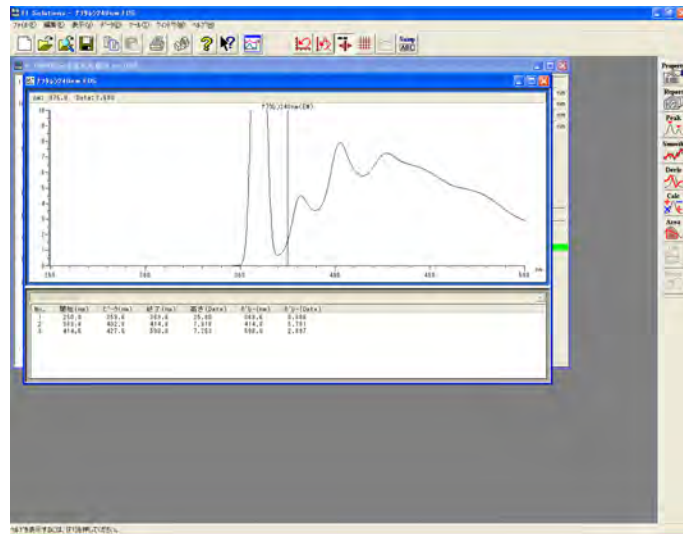

Fig. 7-2
- (6) After completion of selection, click **Open**. (Refer to ④ in Fig. 7-1.) The selected file will open as shown in Fig. 7-2.